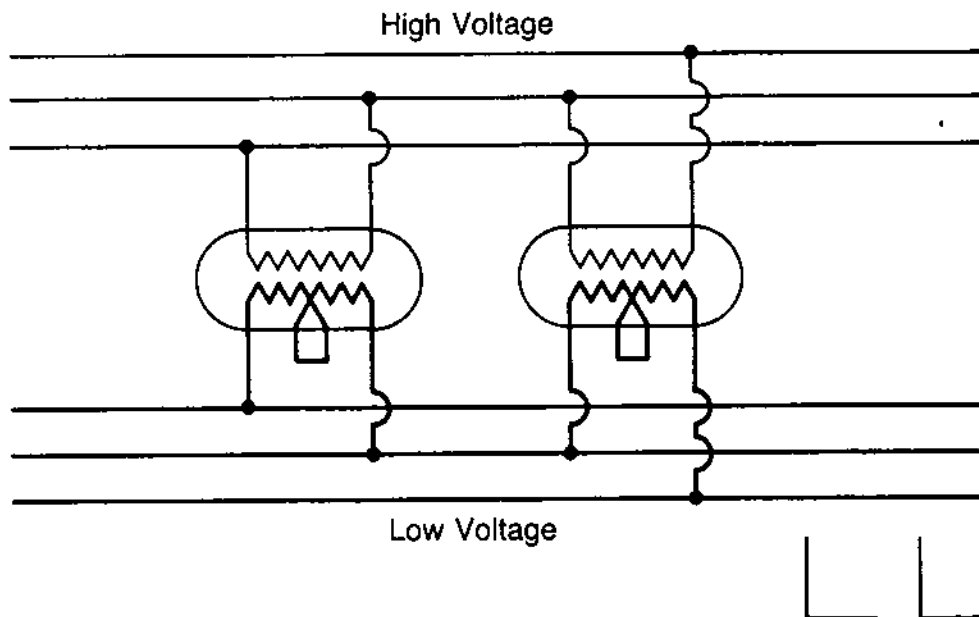

Fig. 31 – Two-Phase, Three-Wire Interconnected
c. Two-phase, three-wire interconnected transformer connection is shown in Figure 31. In this connection two phases are electrically tied together by the common third wire. This connection is permissible in some circumstances and not in others. The common wire is sometimes